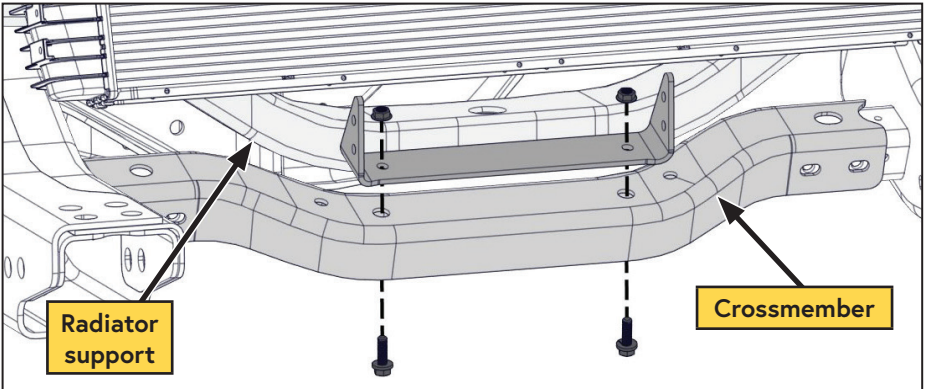

Figure 31 — Install cooler
- ☐ Install the cooler bracket onto the black front crossmember, below the body coloured radiator support (Figure 31).